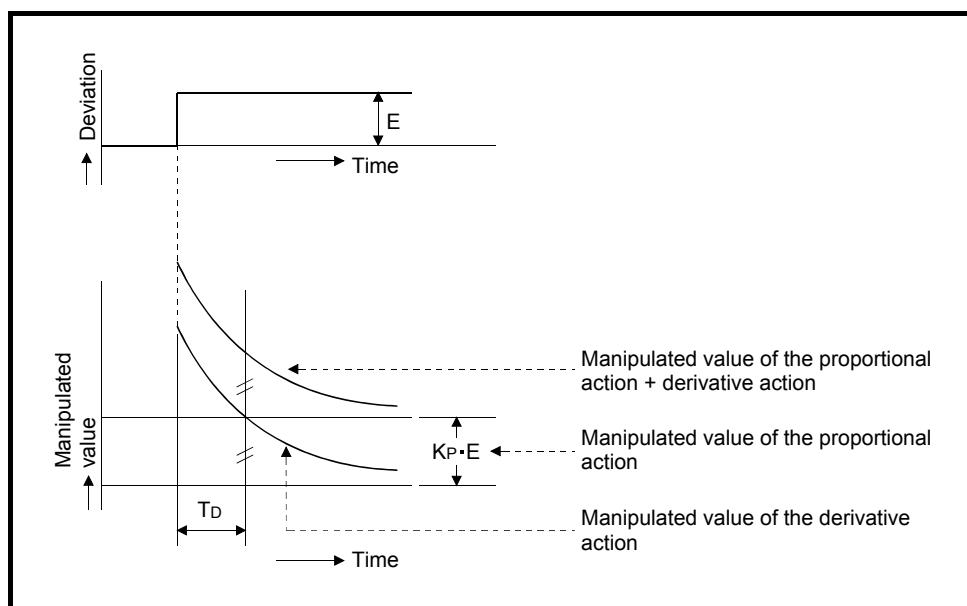

Fig. 1.9 Derivative action for step response
- (2) In the derivative action, the time from the deviation occurrence until the manipulated value of the derivative action becomes that of the proportional action is called the derivative time, and is indicated by T_D .
- (3) Figure 1.9 shows the derivative action for the step response with a constant deviation.
- (4) The derivative action is used in the PD action in combination with the proportional action, or the PID action in combination with the proportional and integral actions.